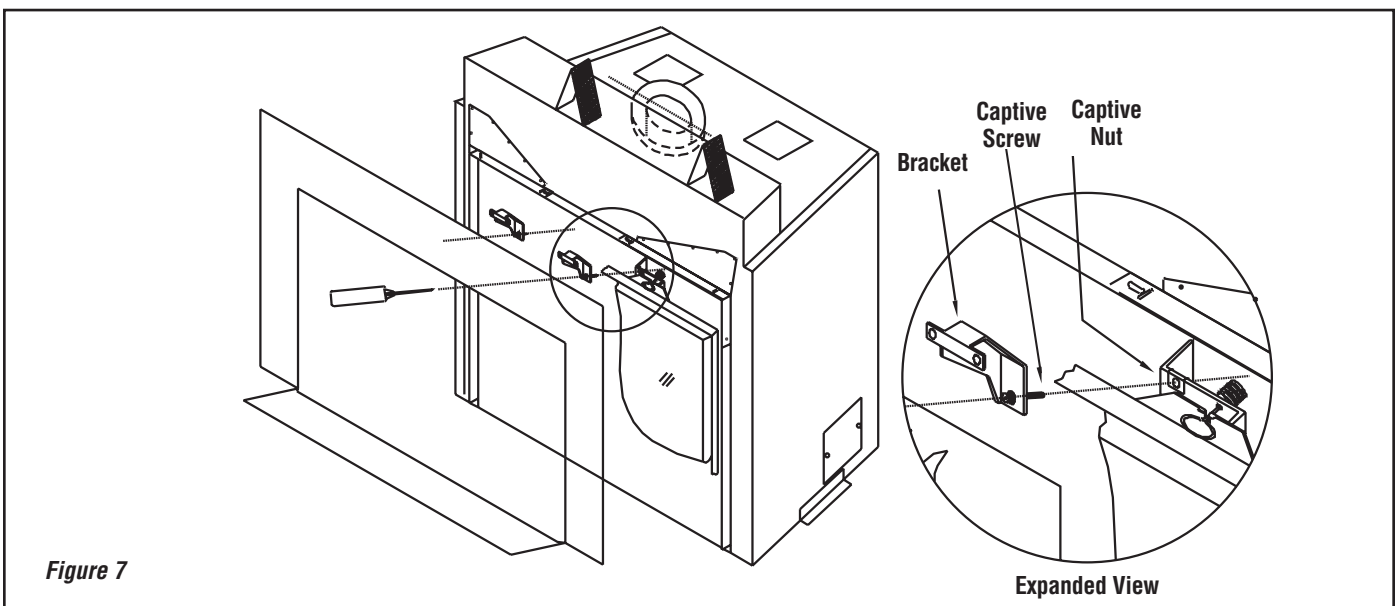

Figure 7
Step 7. The bracket shown in **Figure 7** is installed on the face during the face assembly (see the instructions on the previous page). The captive screws, shown in **Figure 7**, on this bracket need to be screwed into captive nuts on the fireplace as follows; Align the face for plumb and level, then using a phillips head screwdriver (inserted through the vent holes in the face), tighten all four screws.